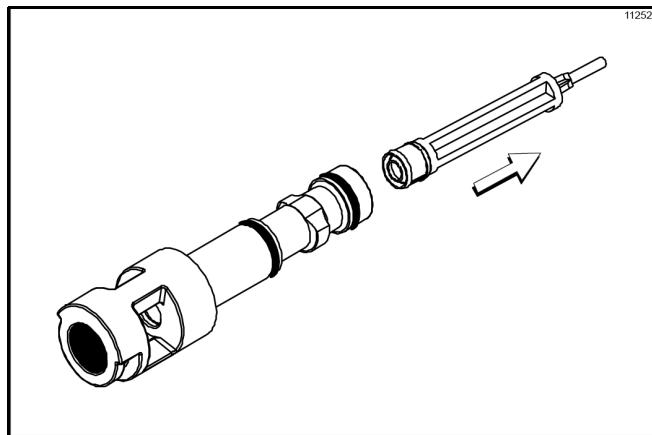

Figure-102
7. Remove the driven spinner from the draw valve by grasping the draw valve and pulling the driven spinner out. Remove the spinner shaft seal. (See Figure-102.)